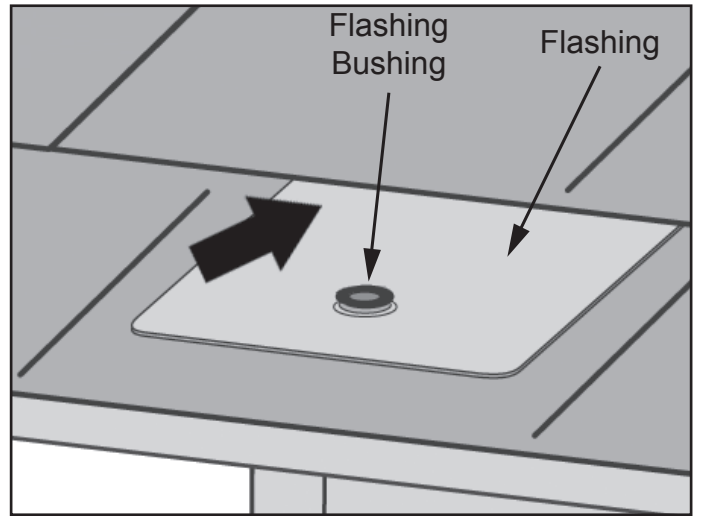

Figure 17.
2. Insert the flashing (not included with Standard Systems) so the top part is under the next row of shingles and the flashing hole/grommet aligns with the mounting hole. See Figure 17.